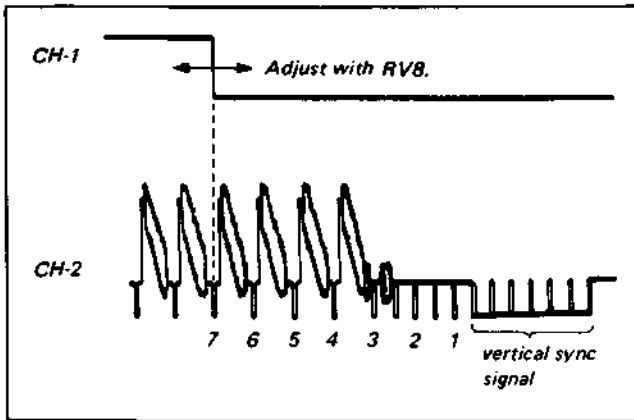

Fig. 4-11. Record-servo lock phase adjustment
- (1) Supply colour bar signal and record.
- (2) Connect CH-1 of an oscilloscope to TP1 (IC003 Pin 4) on the SS-9 board and CH-2 to VIDEO OUT jack (CNJ 2) on the YC-23 board.
- (3) Adjust RV8 on the SS-9 board so that the time interval between the decay of CH-1's waveform and the vertical sync signal of CH-2's video signal become  $7H \pm 2H$  lines (see Fig. 4-11).